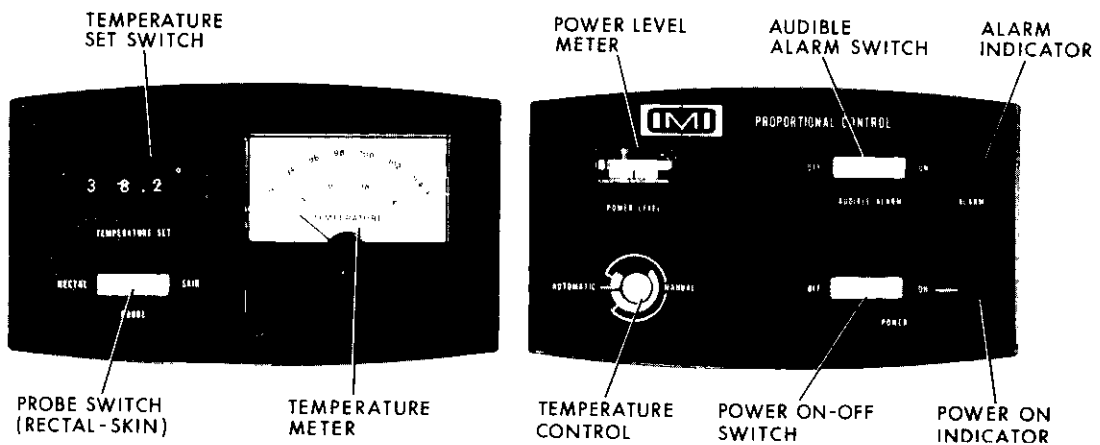

Figure 2. Proportional Controller, Model 4004
- (1) Proportional Controller, Model 4004 (figure 2)
The Proportional Controller, Model 4004 (figure 2) is an electronic control circuit that automatically maintains a preselected temperature by regulating heater output in response to patient's temperature. A skin or rectal probe is used in conjunction with a PROBE switch set in the SKIN or RECTAL position to sense a patient's temperature and provide continuous monitoring. A digital switch on the Proportional Controller is used for preselecting the desired skin or rectal temperature while the actual patient temperature is displayed on a panel meter. Front panel displays also indicate a-c power ON and heater POWER LEVEL and indicate when the AUDIBLE ALARM is enabled. The audible and visible alarms indicate temperatures over 38.3°C and under 34.0°C. The Proportional Controller also has a capability for MANUAL control of patient temperature whenever it is needed.
The front panel controls and indicators are shown in figures 2 and 3. The rear panel components are shown in figure 6.